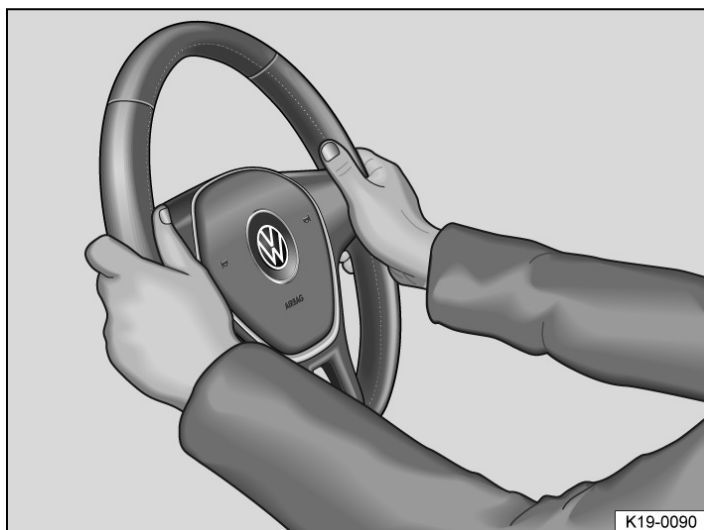

Fig. 2 On the steering wheel: 9 o'clock and 3 o'clock position.
- Adjust the steering wheel so that you can hold it with both hands at its outer edge at the 9 o'clock and 3 o'clock positions with your arms slightly bent → Fig. 2.
- While driving, always keep both hands on the outside of the steering wheel at the 9 o'clock and 3 o'clock positions. → Fig. 2 This reduces the risk of injury if the driver front airbag is triggered.